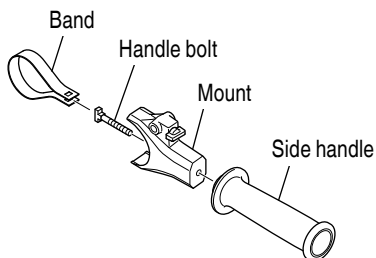

Fig. 10
- (1) Turn the side handle to dismantle. (Fig. 10)